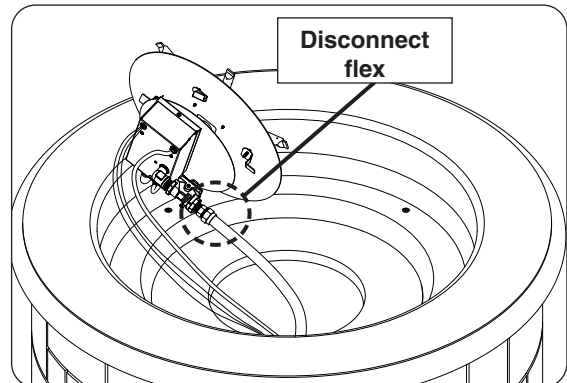

Fig. 26-3 Disconnect flex connector
3. Disconnect flex connector attached to the burner assembly (see Fig. 26-3). Store the burner in a safe location.